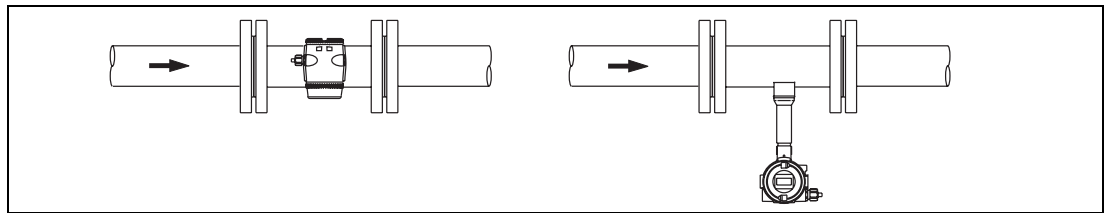

Fig. 16: Installation for High Fluid Temperatures >150 °C
- **for high temperatures (>150 °C), the flowmeter primary should be installed so that the electronic module is to the side or below the flowmeter (Fig. 16).**